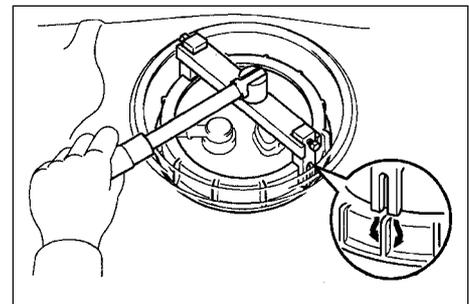

Figure 3-7
- Remove the fuel oil pump assembly with a filter (see Figure 3-7)